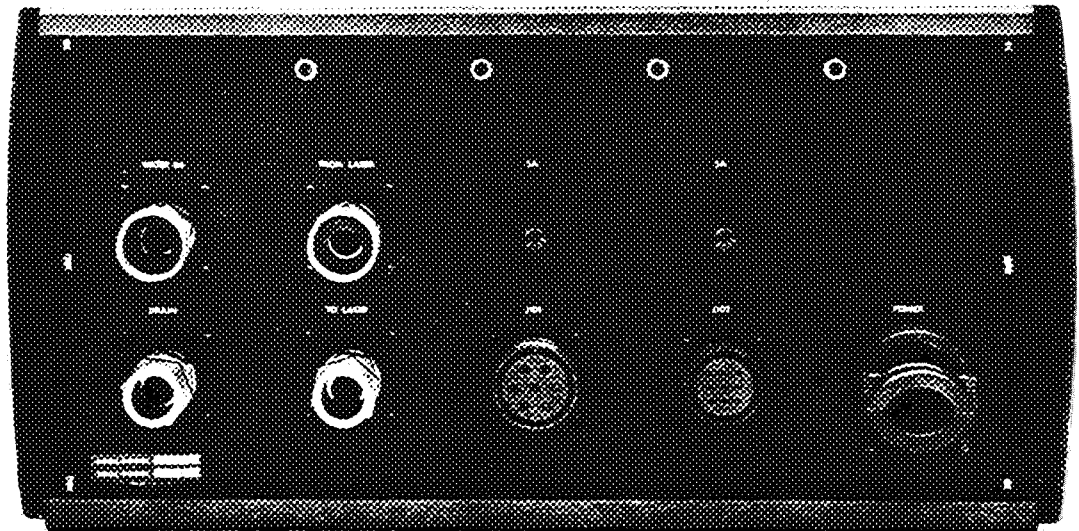

Figure 1; POWER SUPPLY, REAR VIEW
Refer to Figure 1, Power Supply - Rear View. Connect the water lines from the laser head to the FROM LASER and TO LASER water fittings on the rear panel of the power supply.
4. Insert an electrical cable through the opening provided in the rear panel of the power supply unit. (See Figure 1.).